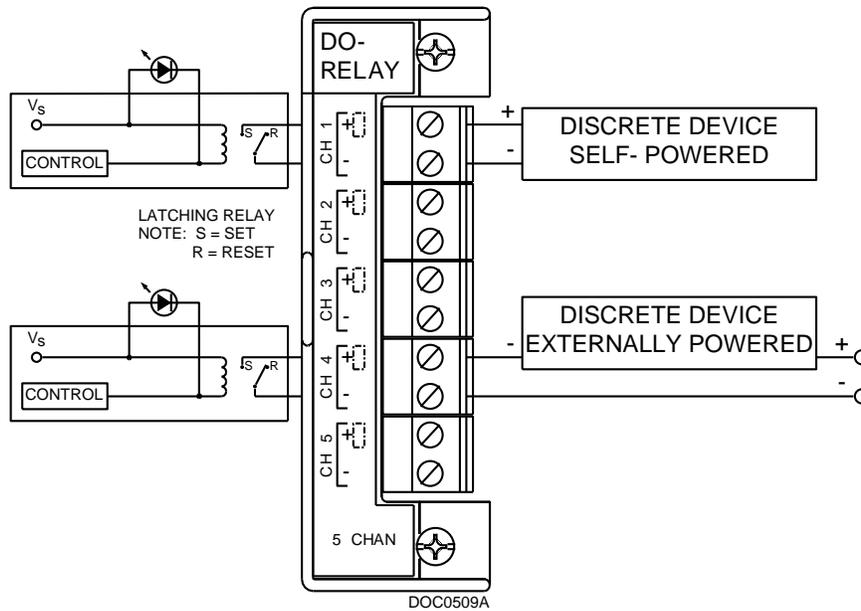

Figure 4-14. Discrete Output Relay Module Field Wiring
*Figure 4-14* displays the field wiring connections to the output circuit of the DOR module.